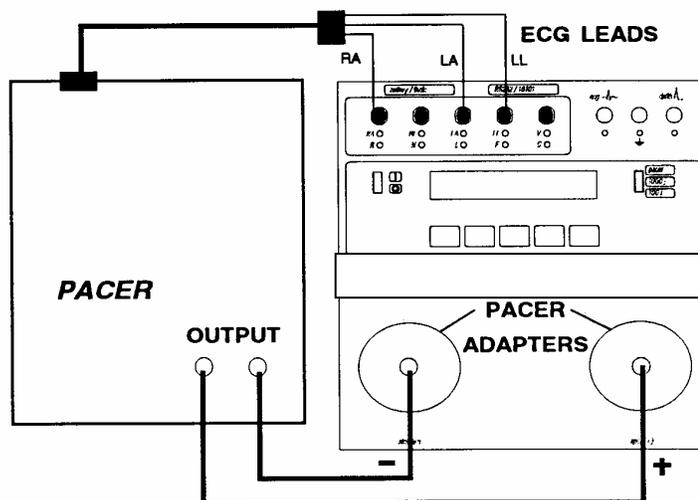

Figure 2.6. Connecting Pacer Output to DA2000
- 4) Connect the output from the pacer to the DA2000 shown in *Figure 2.6*.
- 3) Press **RFP** from the pacer tests menu to select refractory period testing. Refer to **Figure 2.6** for setup. The following menu appears.